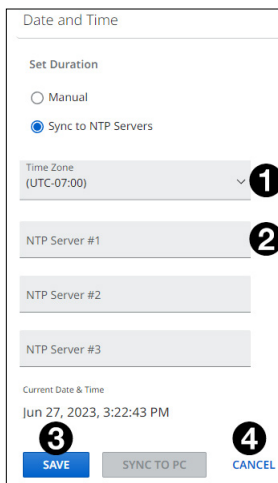

Figure 10. Sync to NTP Servers
2. Select a **Time Zone** from the dropdown list (see figure 10, ①).
3. Click inside the text box and enter the IP address for an NTP server (②). You can enter addresses for up to three servers.
4. Click **SAVE** (③) to save changes or **CANCEL** (④) to exit without saving.